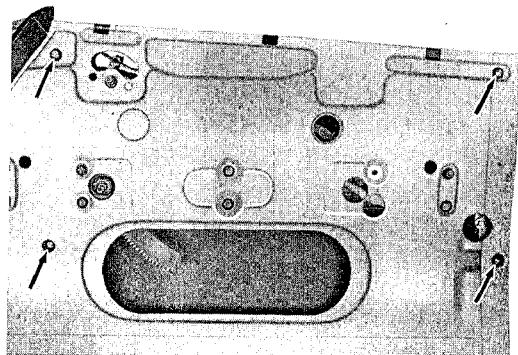

Fig. 60
3. Remove the window rail screws as shown in Fig. 60.